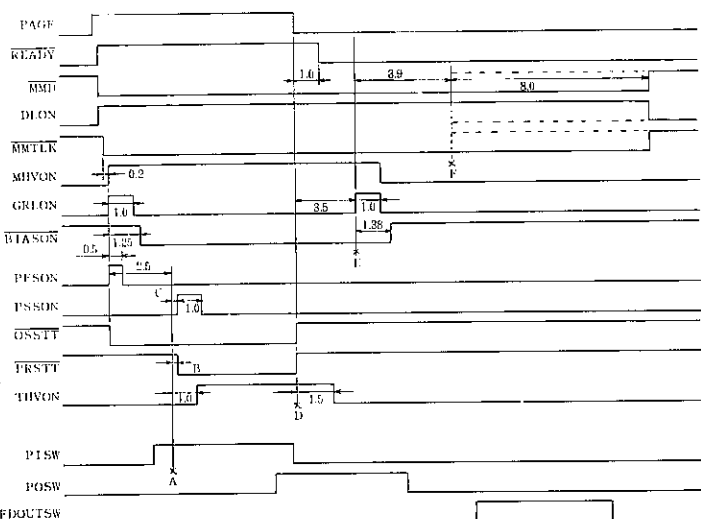

Fig. 40 Print cycle timing (single print)
- (8) When the print cycle goes into the termination cycle, \overline{OSSTT} and \overline{PRSTT} are forced high. In 1.0 second later, \overline{READY} is set low. In 1.5 seconds later, the transfer corona turns off. In 3.5 secs later (point E in Fig. 40), the main corona, developing bias, and the main motor turns off in this sequence. It is similar as the outset termination process from point E through point F.
- (9) If paper is released in the face up mode, the main motor and the discharge lamp are set off at point F (Fig.40) and the print cycle terminates. In the case of the face down mode, after 8.0 seconds from point F, the main motor and the discharge lamp set off to terminate the print cycle.